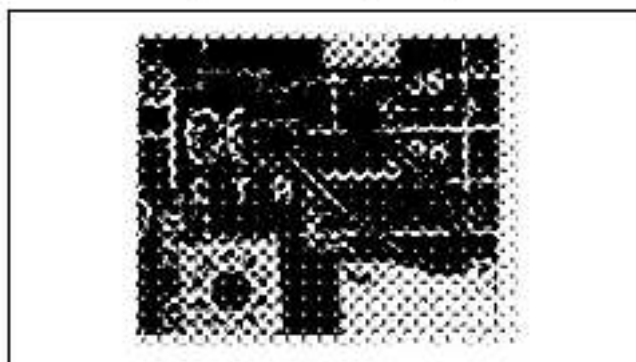

Figure 4 – Feedback Connection on Regulator Module
6. The Feedback Jumper on the Regulator Module must be connected for tachometer feedback. (Refer to Figure 4.) Place the Regulator Module's fixed black jumper on the pin marked T.